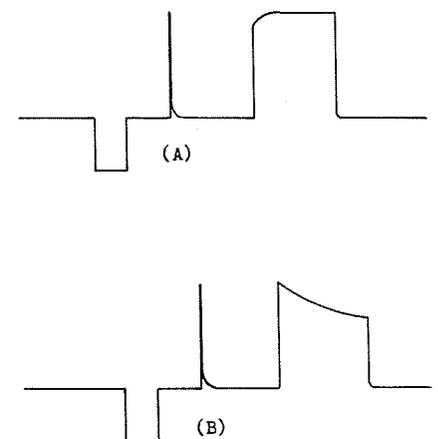

Figure 6.  $\sin^2$  test signal showing: (a) short time constant undershoot, (b) long time constant overshoot.
1. Low-frequency distortion. This type of distortion has its greatest effect on the  $\sin^2$  bar while little change is seen in the  $\sin^2$  pulse. Depending on the time-constant of the circuit involved, the bar will show: undershoot, overshoot, or horizontal tilt. For example, a short time-constant undershoot is a leading-edge roll-off, as shown in Figure 6-a; while a long time-constant overshoot is a negative tilt (drop in amplitude from leading to trailing edge), as shown in Figure 6-b.